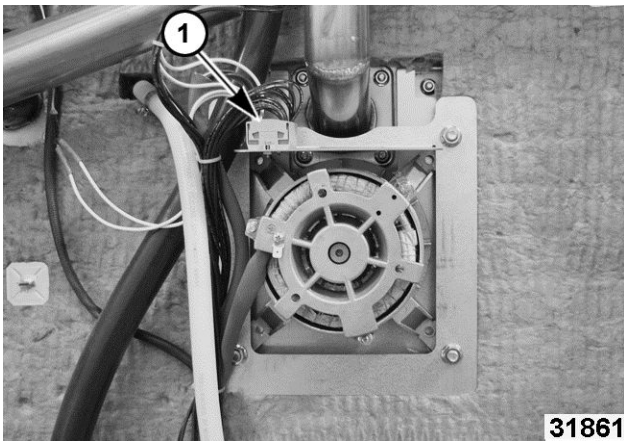

Fig. 57
- Remove motor shroud. (1, Fig. 57)